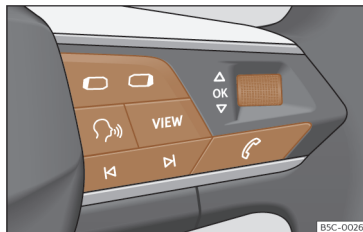

Fig. 10 Right side of multifunction steering wheel: buttons to the menus and informative indications on the instrument panel (depending on the version).
As long as a priority 1 >>> page 25 warning is active, it will not be possible to access any menu. Some warnings can be confirmed and hidden with the button **OK** of the multifunction steering wheel >>> **Fig. 10**.
- If a message or vehicle symbol is displayed, press the button **OK** >>> **Fig. 10**; several times if necessary.